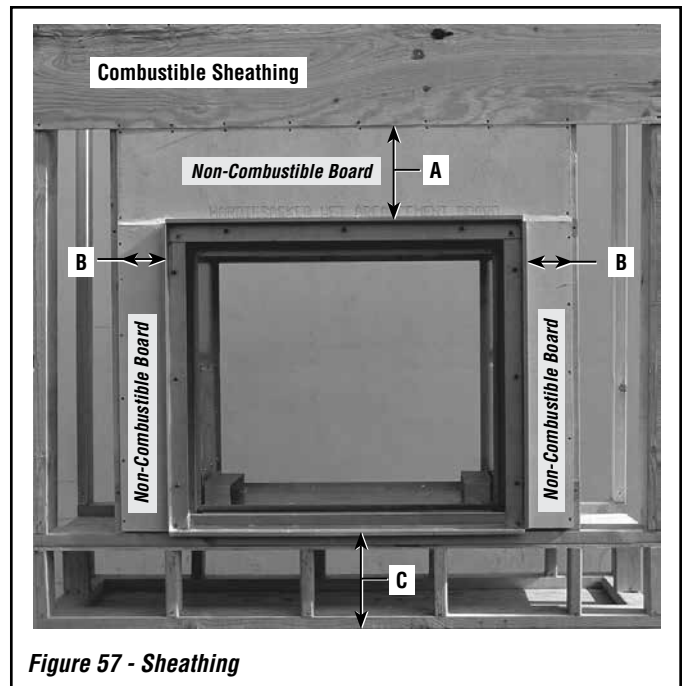

Figure 57 - Sheathing
9. Complete the finished exterior wall as instructed in “FINISHING REQUIREMENTS” in the fireplace Installation and Operation Instructions (also see **Figures 57–60**).